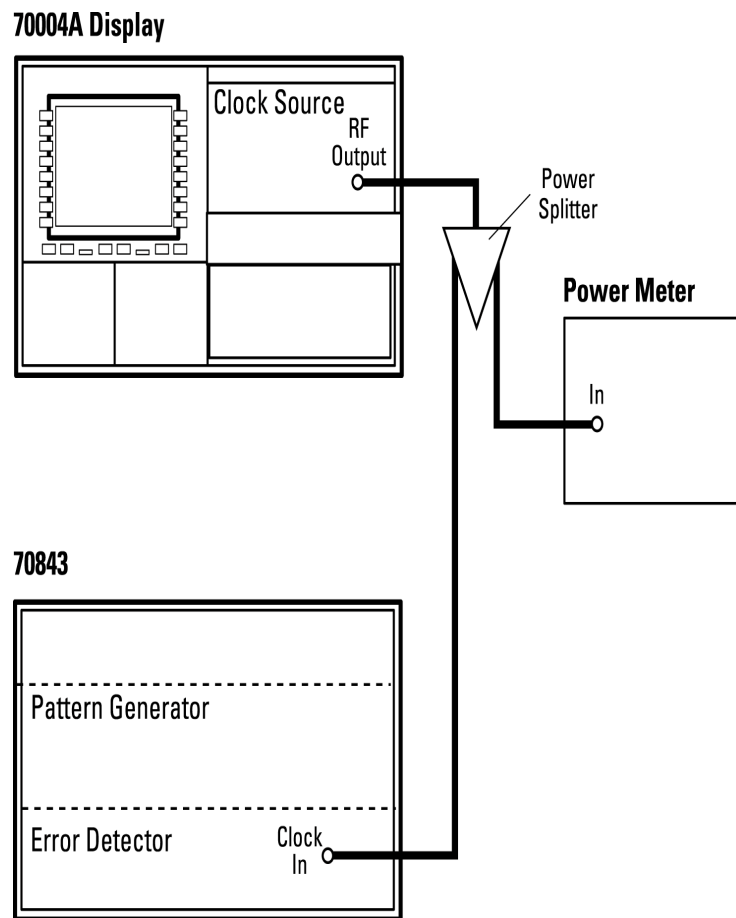

Figure 11-9
1. Connect the clock source RF output to the error detector CLOCK INPUT port and to the power meter via a power splitter as shown in Figure 11-9.
This test only applies to Agilent 71612 option UHF systems. With the equipment connected as shown in Figure 11-9, press **INST PRESET** on the Agilent 70004A display.
1. Connect the equipment as shown in Figure 11-9 on page 11-17.